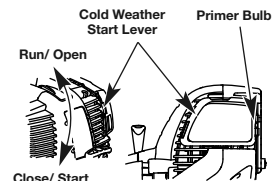

Fig. 9
- Fully press and release the primer bulb 10 times, slowly. Some amount of fuel should be visible in the primer bulb and fuel lines (Fig. 9). If you can't see fuel in the bulb, press and release the bulb as many times as it takes before you can see fuel in it.
IF COLD... For cold weather conditions (below 40°F), flip the Cold Weather Start Lever (Fig. 9) down to the start/closed position and continue to step 3. DO NOT flip this lever down if the temperature is above 40°F.